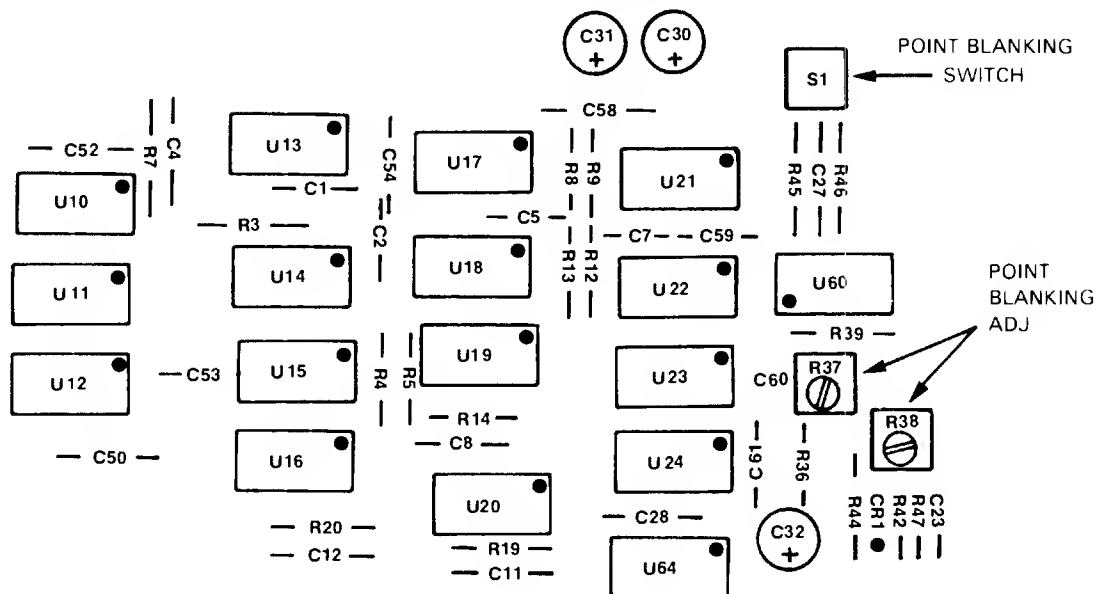

Figure 5-10. Point Blanking Switch and Adjustment Locations on Control Board
- d. Adjust A1R37 and A1R39 (figure 5-10) so that the asterisks have proper shape and uniform intensity.
- e. Change position of point blanking switch (figure 5-10). Shape and intensity of the asterisks should not change. Readjust if necessary until no change. Return switch to forward position.